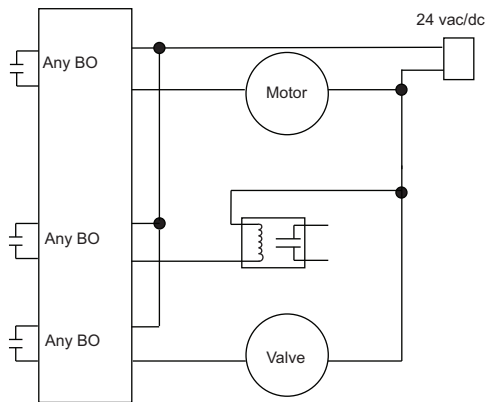

Fig. 3 — Connect Binary Output Wiring Screw Terminals
3. Connect the binary output wiring to the screw terminals on the TruVu™ and to the controlled device as shown in Fig. 3.